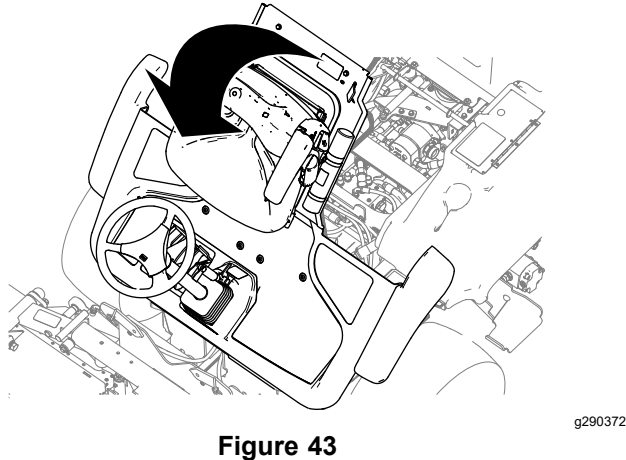

Figure 43
2. Raise the platform (Figure 43).